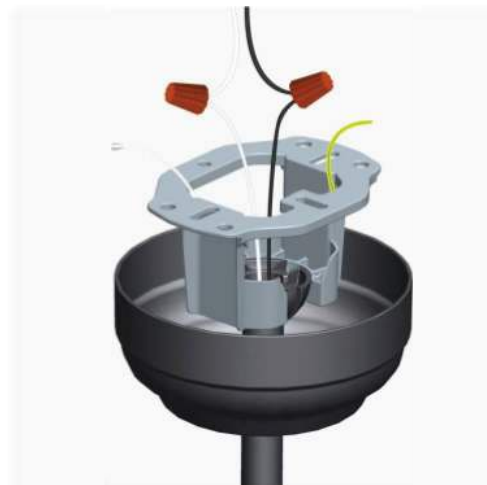

Fig 5.2
5.2 Fasten the safety rope to a safe place. Connect the fan motor White wire to the supply White (Neutral) wire using a wire nut, connect the fan motor Black wire to the supply Black (Hot/Live) wire using a wire nut. The Yellow/Green wire is ground wire and needs to be connected accordingly. (Make sure all the wires are connected to the correct colors as shown in **Fig 5.2**.)